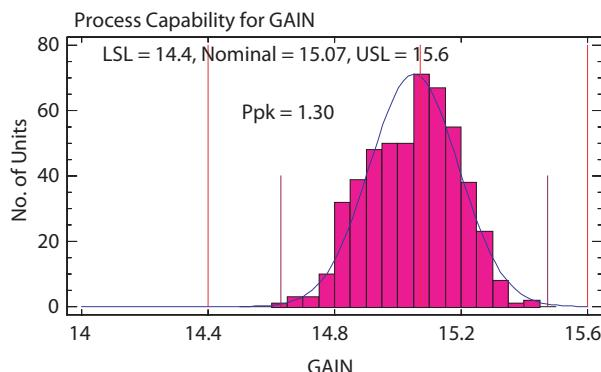
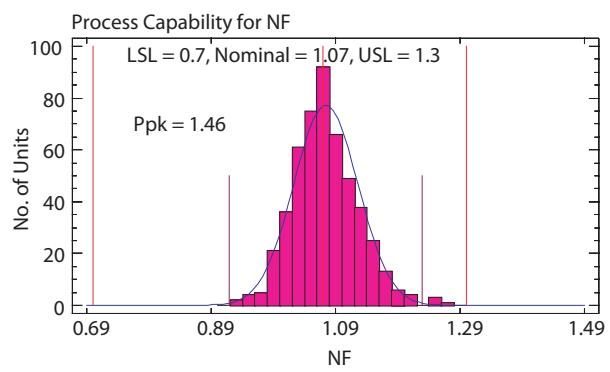

Figure 1. Gain @ 2.4 GHz, Vd 3V; Vbypass 1.8 V
Figure 2. NF @ 2.4 GHz, Vd 3V; Vbypass 1.8 V
5. Measurements at 2.4GHz obtained using demo board described in Figure 1, with component values on Figure 2 (2.3 – 2.4 GHz)